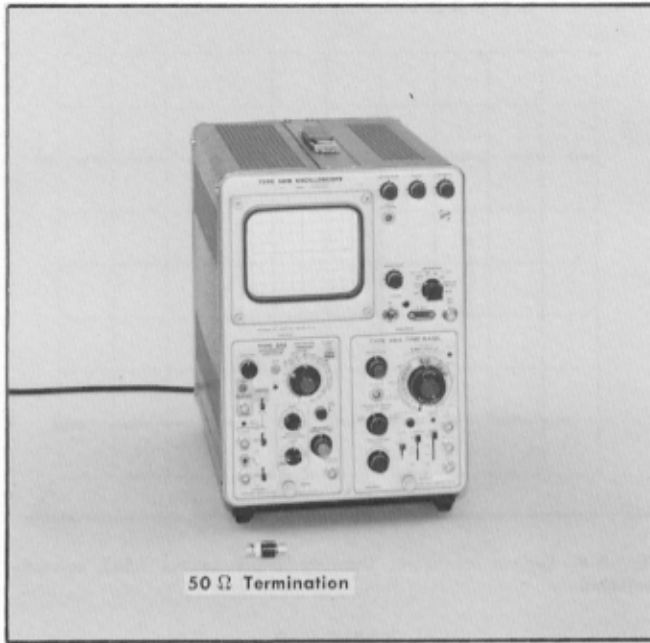

Fig. 5-5. Equipment required for steps 7 and 8.
- Test equipment is shown in Fig. 5-5.